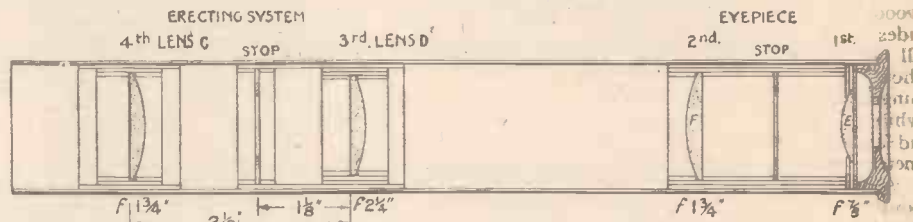

Fig. 3.—The arrangement of lenses in a terrestrial eyepiece.
The next matter is that of the terrestrial eyepiece. To convert the ordinary astronomical eyepiece into one for viewing objects the right way up, two additional lenses will be required and the system will become as in Fig. 3. From this it will be realised that a very much longer draw tube will be needed and will probably have to be as much as 9 in. or 10 in. in length. I suggest that the two erecting lenses, C and D, shall be duplicates of the field lens F, having the same diameter and both of the same foci. They will each be mounted in separate cells of Bristol board (as shown), which cells should be a good firm sliding fit in the tube. As I do not know what the foci of these lenses will be, I cannot state the best positions in which to place them nor their distances from the field lens F. It is for this reason that I suggest they be made to slide so that their best positional adjustment can be got by actual tests. When the clearest definition with the telescope is obtained, the places occupied by the two cells should be measured and marked inside of the tube and either stuck to the
The figures for the erecting lenses I have added to Fig. 3, and the separation between the second lens (F) and the third lens had still better be arrived at by trial.